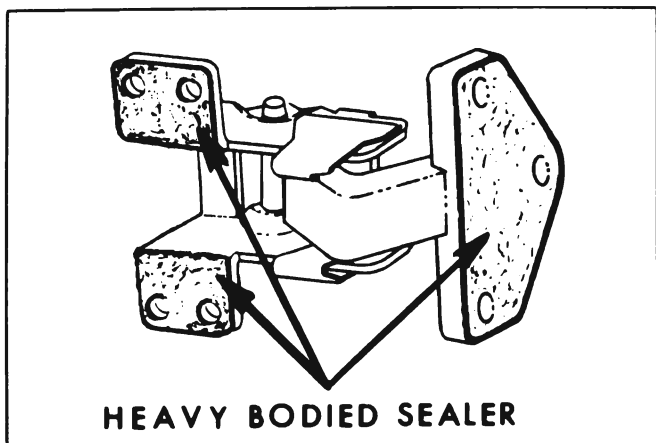

Figure 13-37—Front Door Hinge Assembly
1. As an anti-squeak precaution and to prevent entry of water into body at hinge attaching bolt locations, coat attaching surfaces of hinges with heavy-bodied sealer prior to installing door. See Figure 13-37.
1. As an anti-squeak precaution, coat attaching surfaces of hinges with heavy bodied sealer prior to installing door. See Figure 13-37.